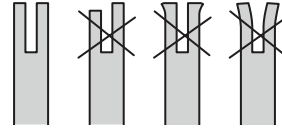

Fig. 48
5. Check the guide bar 'rail' for wear: Hold a ruler (straight edge) against the side of the guide bar and 'cutter side plates'. If there is a gap between the ruler and guide bar the guide bar 'rail' is normal. If there is no gap (ruler flush against the side of the guide bar) the guide bar 'rail' is worn and needs to be replaced with a new one of the same type (Fig. 48).